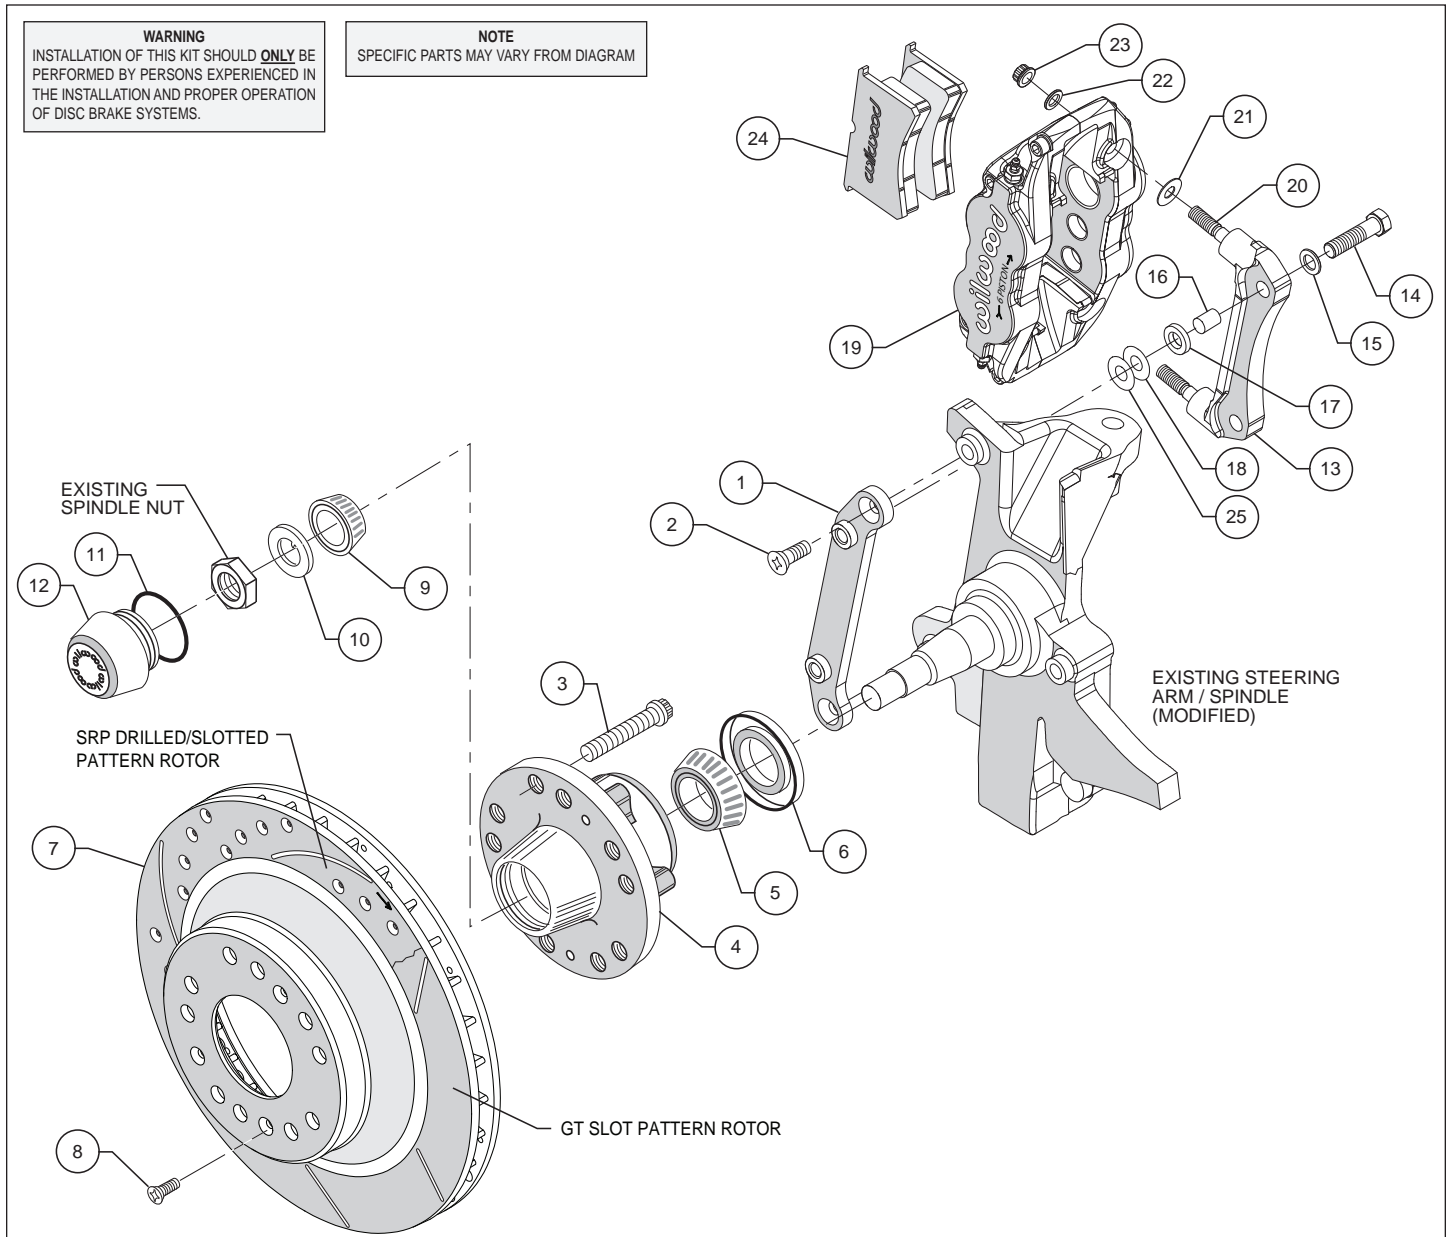
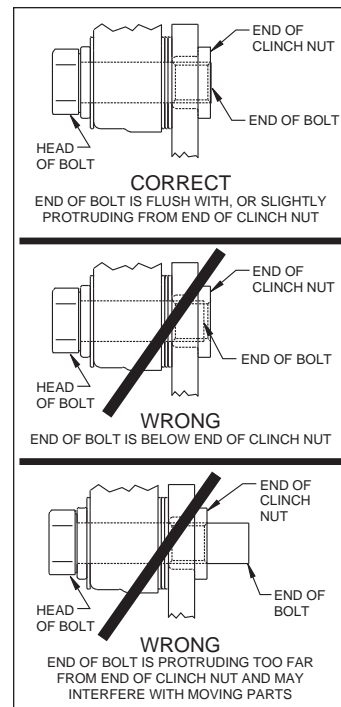

Figure 2. Typical Installation Configuration
Figure 4. Clinch Nut Engagement Diagram
Assembly Instructions (numbers in parenthesis refer to the parts list, and Figure 2): **CAUTION:** All mounting bolts must fully engage clinch nuts. Be sure to check that all bolts are either flush or protruding through flanged side of clinch nut after shimming, Figure 4.
- Orient the flat mounting bracket (1) as shown in Figure 2 and install using bolts (2). **NOTE:** Be sure the heads of the flat caliper bracket (1) insert nuts are facing outward toward the wheel. Temporarily tighten the mounting bolts. **NOTE:** The bracket must fit squarely against the mount bosses on the upright. Inspect for interference from casting irregularities, machining ridges, burrs, etc. After the bracket fitment has been checked, remove the bracket mounting bolts one at a time and apply red *Loctite*[®] 271 to the threads. Torque bolts to 40 ft-lb.
- The caliper radial mount bracket (13) should initially be installed with clean, dry threads on the mounting bolts. Place sleeve (16) into the holes on the bracket. Orient the bracket as shown in Figure 2, and install using bolts (14), and washers (15). Position spacer (17), and shim washers (18 and 25) between the two brackets. Initially place one .030" thick shim and one .016" thick shim on each bolt between the two brackets, Figure 2. Temporarily tighten the mounting bolts. Later, after the caliper alignment has been checked, the mount bolts will be secured using red *Loctite*[®] 271.
- Install wheel studs (3) into the hub (4), Photo 1. Torque to 77 ft-lb. **NOTE:** *There are two five lug patterns in the hub (5 x 4.50 and 5 x 4.75).* Ensure the correct hub stud pattern is being used to fit the wheel application.
- Pack the large inner bearing cone (5) with high temperature disc brake bearing grease (available from your local auto parts store) and install into the backside of the hub (4), Photo 2.
- Install the grease seal (6) by pressing into the backside of the hub (4), flush with the end of the hub, Photo 2.
- Pack the small outer bearing cone (9) with high temperature disc brake bearing grease and install into hub (4). Slide the hub assembly onto the spindle. Secure using spindle washer (10) and OEM spindle nut, Photo 3. Adjust bearings per OEM specifications. Install saved OEM nut lock (if any) and a new cotter pin (not included).
- Screw dust cap (12) into hub (4), Photo 4. Friction created by the o-ring (11) on the dust cap keeps it from unscrewing. **NOTE:** *The O.D. of the existing OEM spindle washer may be larger than the I.D. of the dust cap not allowing it to seat against the hub face. Therefore, use the spindle washer (10) supplied with the kit instead of the OEM washer.*
- Slide the hat/rotor (7) onto the hub (4) taking care to align the small countersunk holes in the hat with the small threaded holes in the hub. **NOTE:** *The hat must fit flush against the hub face or excessive rotor run out may result.* Install three flat head screws (8) through the small holes in the hat (7), Photo 4, and torque to 85 in-lb.
- NOTE:** *This kit contains distinct right and left hand calipers that must be mounted in a specific direction, as described below.* Lubricate the caliper mounting studs (20) with lightweight oil. Initially place one .035" thick shim (21) on each stud between the caliper and the bracket, as shown in Figure 2 and Photo 5. Mount the caliper (19) onto the bracket (13) using lock nuts (23) and washers (22), Figure 2. Ensure that the caliper is mounted so the largest pistons are at the rotor exit end of the caliper, in relation to the direction of rotor rotation. Temporarily tighten the lock nuts and view the rotor through the top opening of the caliper. The rotor should be centered in the caliper, Photo 6. If not, adjust by adding or subtracting shims (18 and/or 25) between the two brackets. Always use the same amount of shims on each of the two mounting bolts. Once the caliper alignment is correct, remove the bracket mounting bolts one at a time, apply red *Loctite*® 271 to the threads, and torque to 60 ft-lb.
- Remove the caliper center bridge pad retainer bolt, nut, and tube from the caliper. Insert the brake pads (24) into the caliper, with the friction material facing the rotor, as shown in Photo 7. Check that the top of the brake pad is flush with the outside diameter of the rotor, Photo 8. If not, adjust by adding or subtracting shims (21) between the caliper and the bracket. After the caliper pad height is set, torque the caliper lock nuts (23) to 30 ft-lb. Secure the brake pads in place with the center bridge pad retainer tube, bolt, and locknut. The locknut should be snug without play in the bolt or tube. Be cautious not to over tighten.